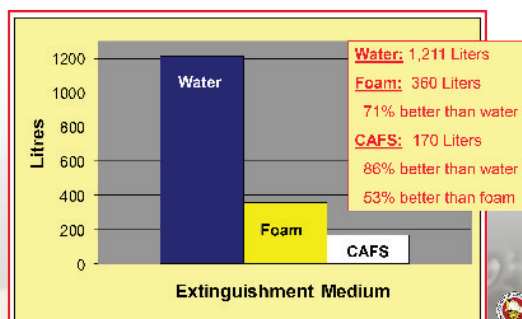

Fig: 3
- Offers 76 percent enhanced cooling compared to water and 17 percent compared to Class A foam application (Fig 3)